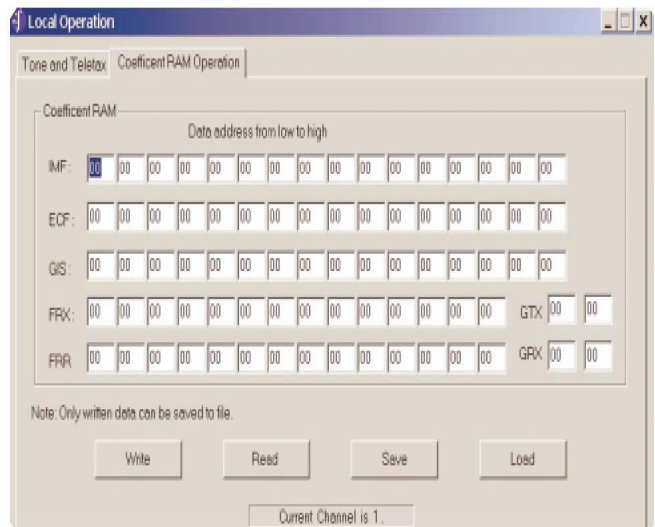

FIGURE 8. COEFFICIENT RAM OPERATION SCREEN
When the COF RAM button is selected from the MPI Operation General Interface screen, the COF RAM Operation screen will appear (Figure 8). From this screen, the user can load the coefficients for the current channel.
- From MPI Software screen, Select COF RAM. The Coefficient Ram Operation screen will appear (Figure 8).